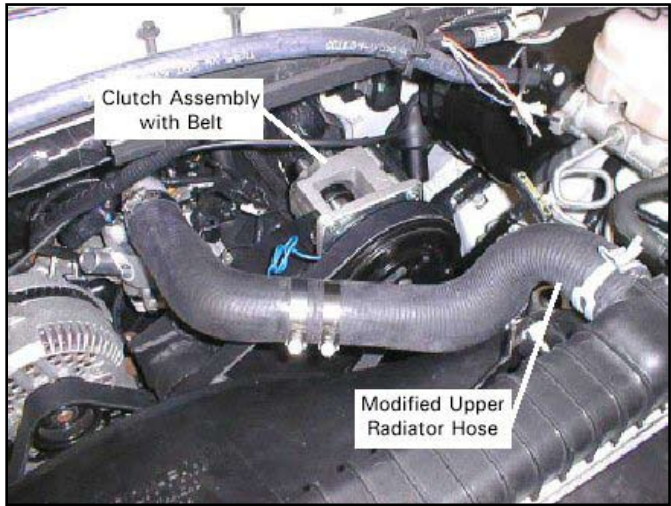

Figure 14. Install New CDS Driver Belt
18. Install the clutch assembly to the clutch bracket using the 5 bolts provided in the kit. Loctite® and torque all bolts to 25 - 30 ft lbs. The opening in the clutch housing will face up. Install the new CDS drive belt. See Figure 14.
19. In the center of the straight section of the upper radiator hose, cut the hose in half. The end that attached to the radiator will go on the same way. The other end that attached to the thermostat housing needs to be flipped over so the cut end is facing the thermostat housing. See Figure 14. (Use the adapter and clamps provided.)